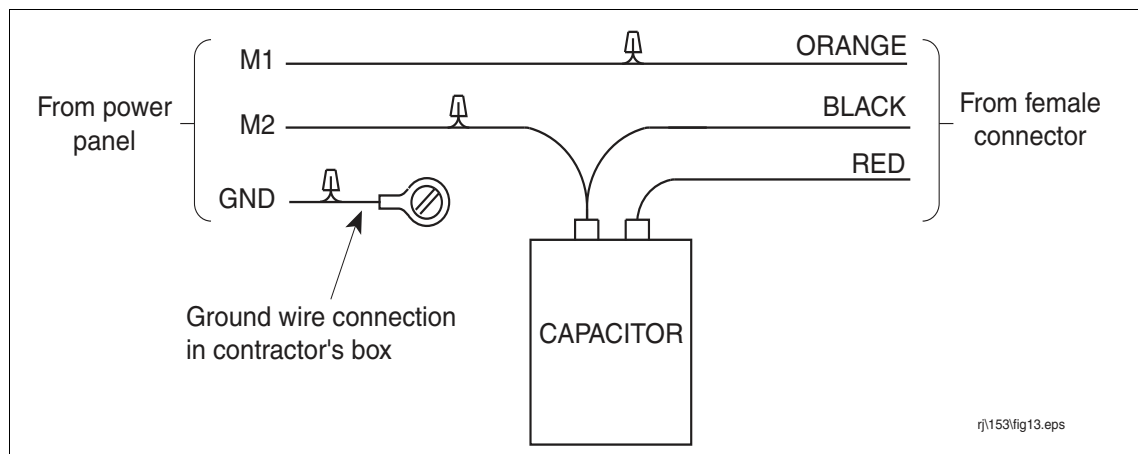

Figure 13. Capacitor Wiring Schematic
14. Using supplied wire nuts, attach like colored pump pigtail wires to like colored electrical connector wires as shown in Figure 13.